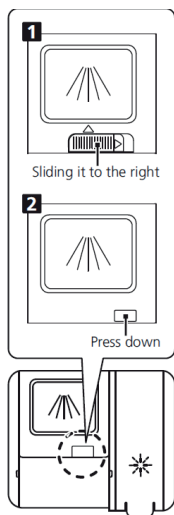

Fig.6
- Method 2: Open the lid by pushing the release latch. (Fig. 6).
- To adjust the height of the upper rack, overturn the handles on the sides of the rack (see Fig. 6).